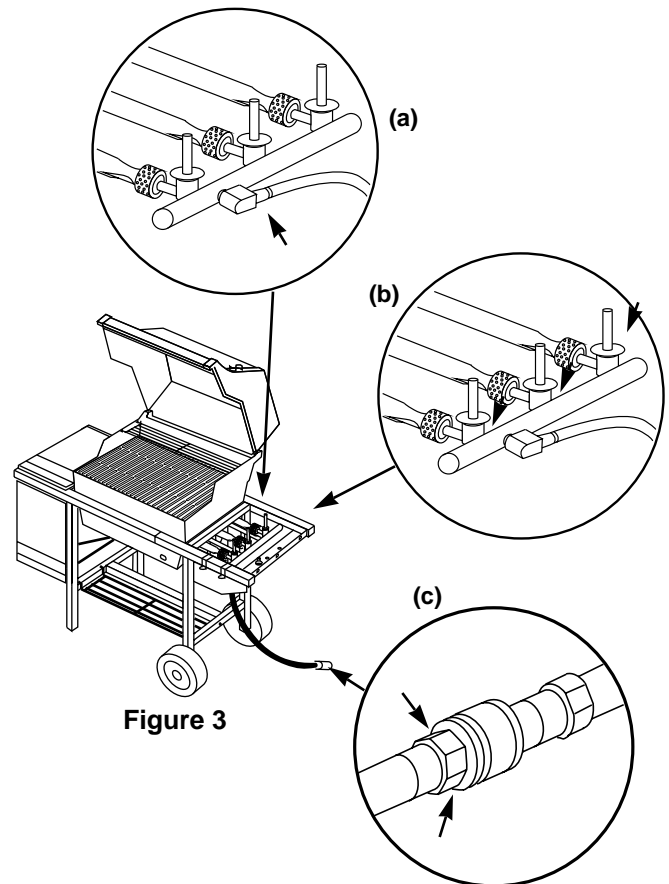

Figure 3
- a) Hose to manifold connection. Figure 3 (a).
**⚠WARNING:** If there is a leak at the hose to manifold connection, Figure 3 (a), retighten the hose fitting with a wrench and recheck for leaks with soap and water solution.
- b) Valves to manifold connections. Figure 3 (b).
- c) The hose to quick disconnect connection. Figure 3 (c).